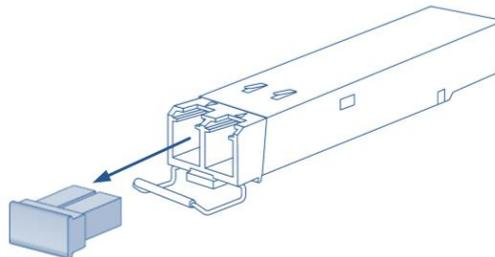

Figure 5 : SFP+ Module with bale clasp open and dust plug removed
1. Remove the dust cups from the module as shown in Figure 5.